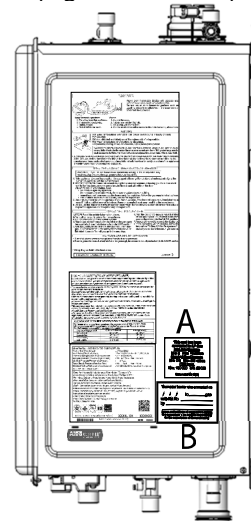

Figure 7
- 3) Affix the New Inlet sticker as close as possible to the existing rating plate on the unit. (A in Figure 7)
Affix this sticker as close as possible to the existing rating plate on the unit. (B in Figure 7)